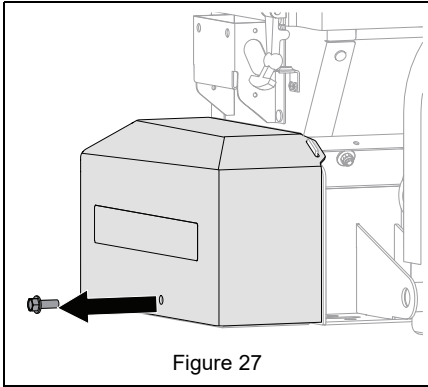

Figure 27
2. Remove hex screw retaining electrical cover and remove cover. Retain for reinstallation. See Figure 27.